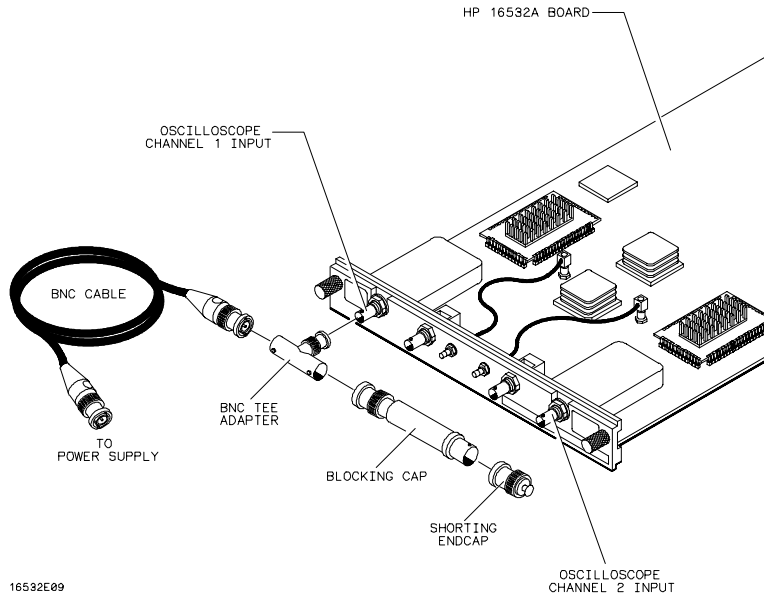

Figure 3-1. Voltage Measurement Accuracy Test
1. Using a BNC adapter, connect one end of the cable to the power supply. Connect the BNC tee, the blocking capacitor, and the shorting endcap to the other end of the cable. Refer to figure 3-1.
5. Set the power supply to the first supply value listed in the table. Connect the power supply to the channel input as shown in figure 3-1.